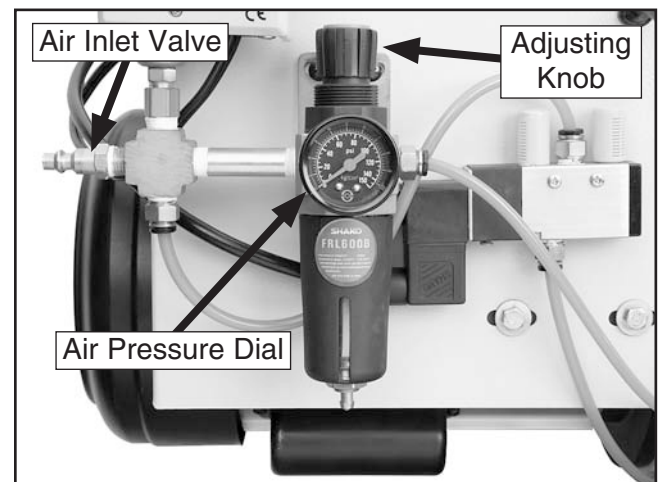

Figure 13. Air regulator unit on back of sander.
10. Lift up on the air regulator adjusting knob (see **Figure 13**), and turn the knob so that the air pressure dial reads 57 PSI, then push the adjusting knob down to lock the setting.